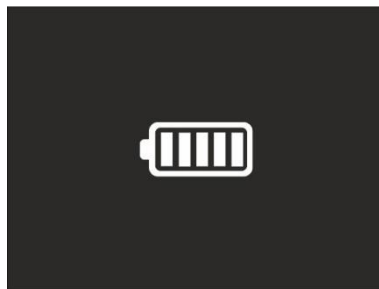

Fig. 53: Indication of complete recharge of the battery
2. When the symbol “” appears steady on the display, the charging process is complete (see Fig. 53).